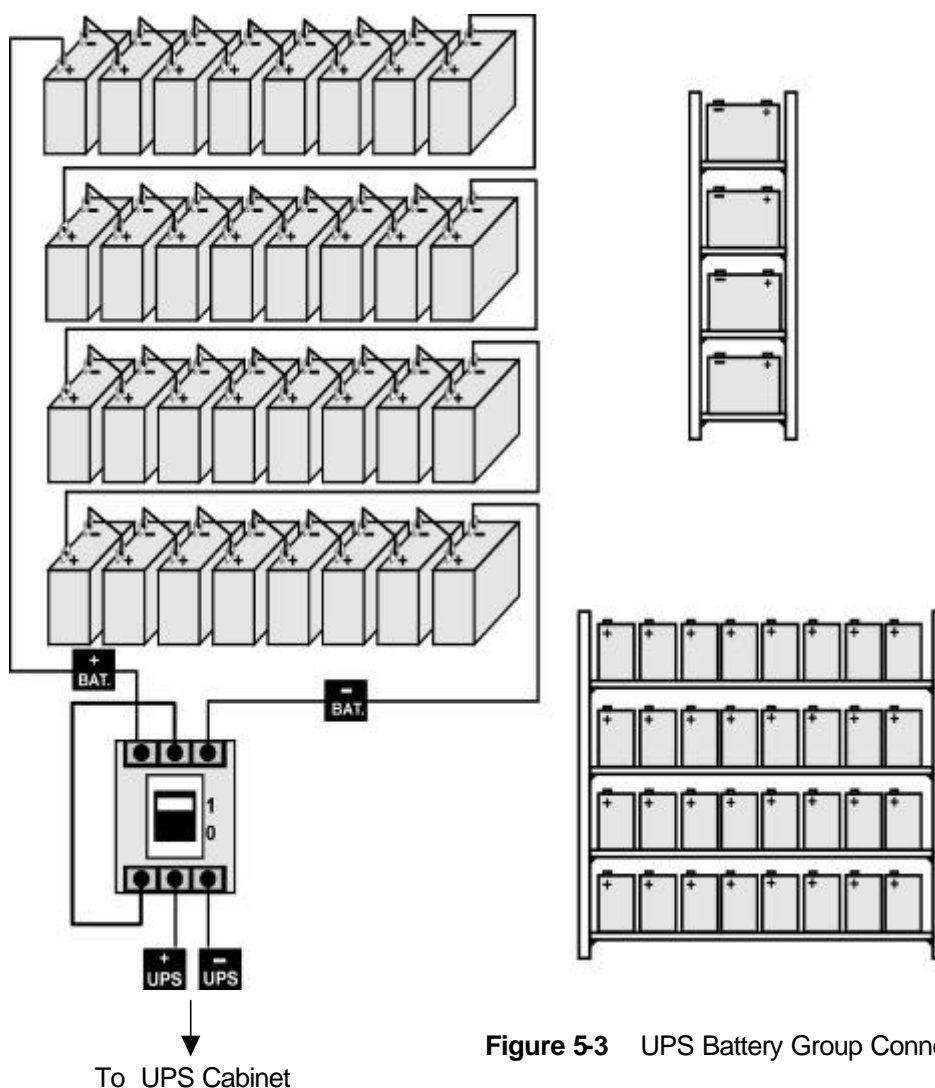

Figure 5-3 UPS Battery Group Connection
5. Connect the cable between the battery circuit breaker's positive port (BAT+) first then battery tray (+) at the left topside as in the figure 5-3
6. Connect the cable between the battery circuit's negative port (BAT-) first then battery tray (-) at the right bottom side as in the figure 5-3